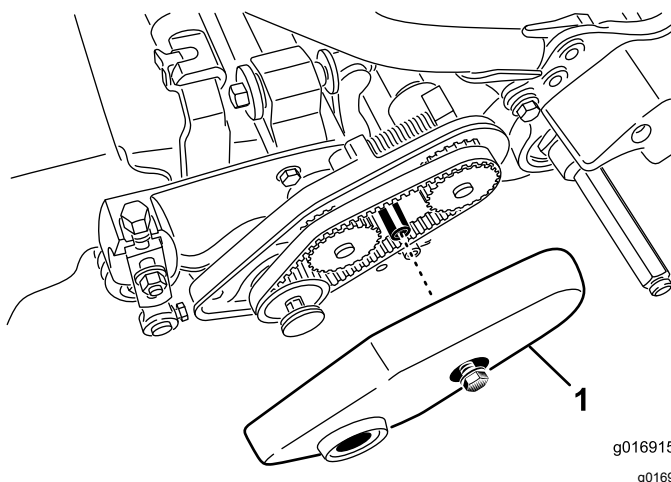

Figure 15
2. Loosen the flange bolt securing the belt cover and remove the belt cover to expose the belt (Figure 15).